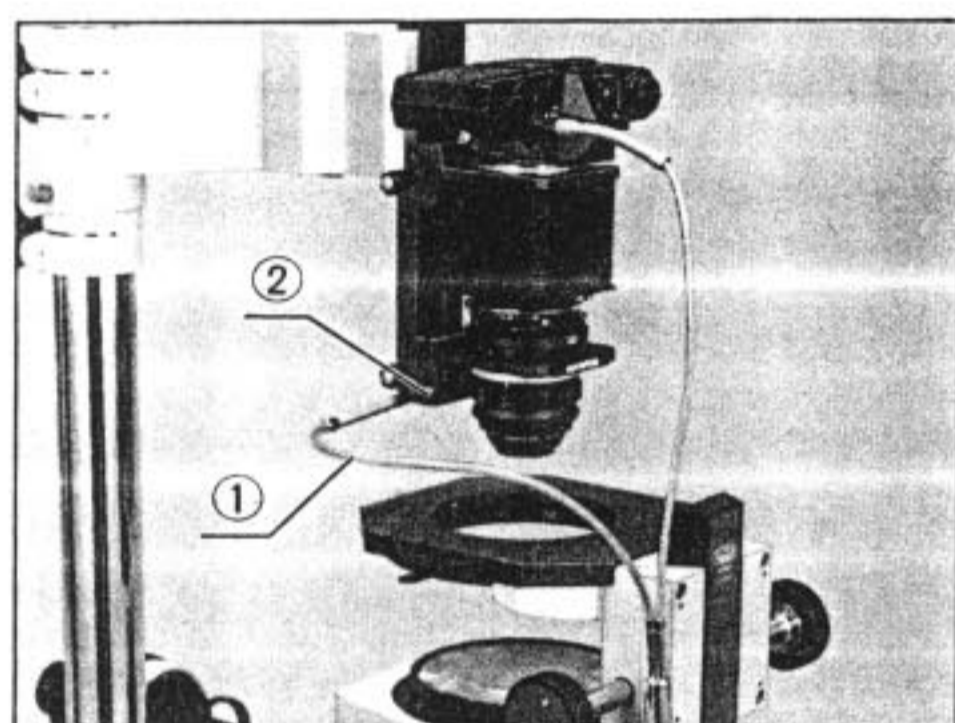

Fig. 11
- 1) Screw the shorter cable release needle into the camera's release button, and the longer needle ① into the socket ② of the bellows. (Fig. 11)